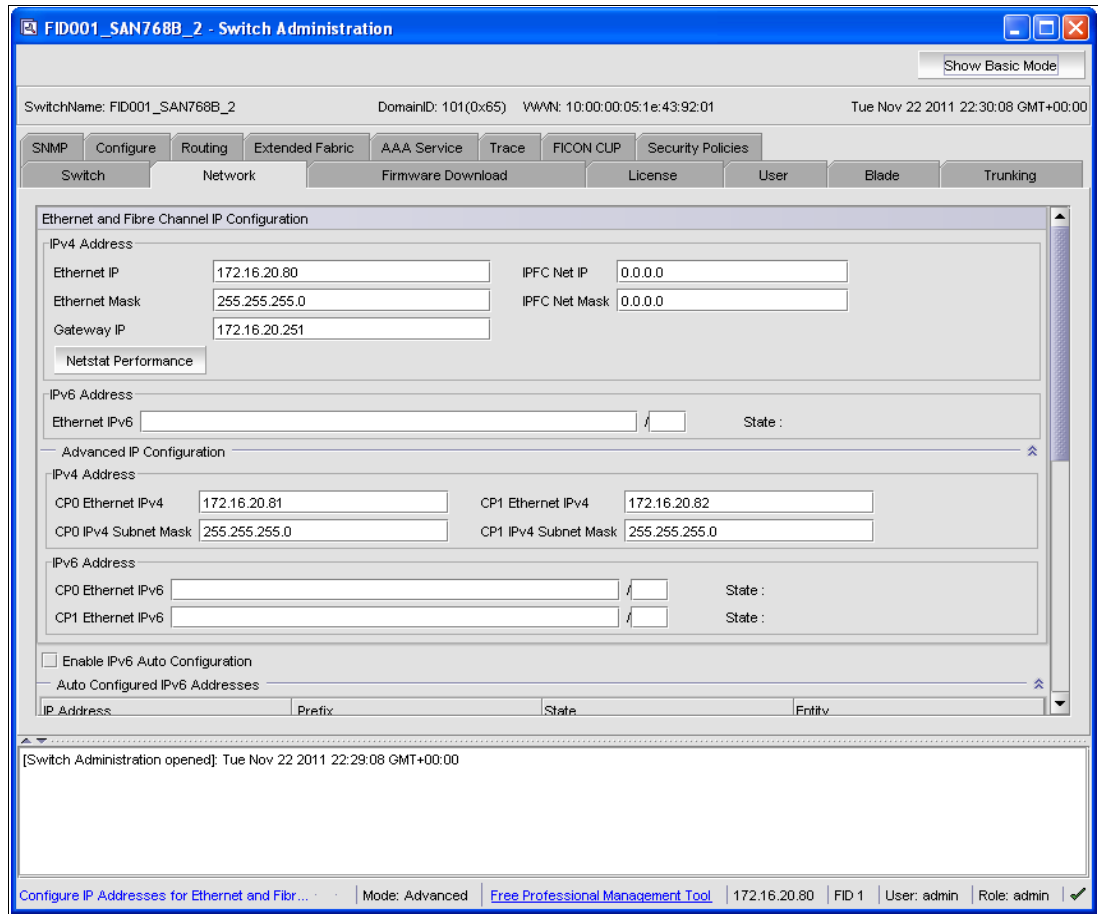

Figure 8-23 Setup management IP address
9. At the Director's graphical user interface, select **Manage** → **Switch Admin**. Select the **Network** tab at the Switch Administration window to reach Figure 8-23 on page 266.